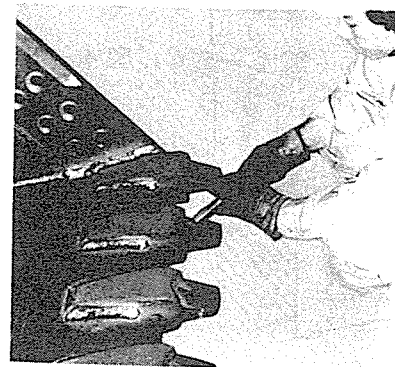

Fig. 4-44
- (c) Using a putty knife or the like, clean the outer surface of the nose thoroughly. (Fig. 4-44)